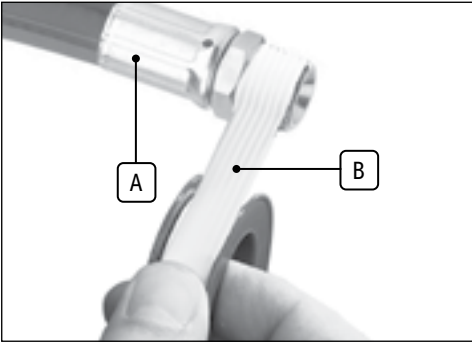

Fig. 2
6.2 Connection to the Air Supply (Figs.2 - 3)